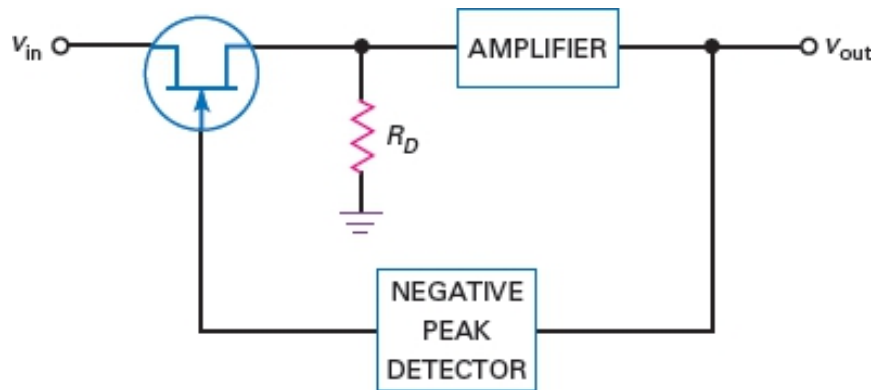

Figure-23 Automatic gain control
- To prevent unwanted changes in the volume, most modern receivers use automatic gain control (AGC). Figure-23 illustrates the basic idea of AGC.